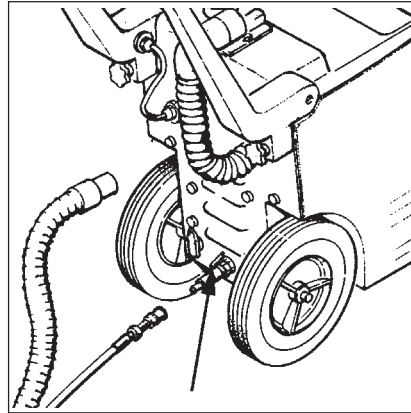
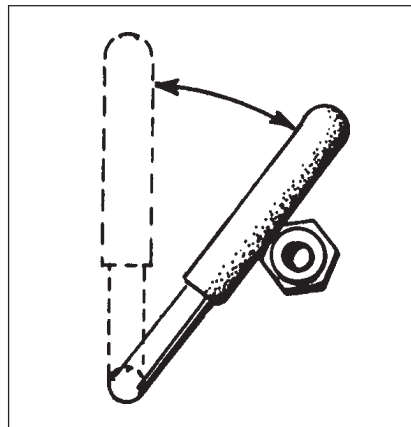

Figure 5
Figure 5a
3. Move and hold the brush height lever (figure 5) away from the auxiliary connection. Make connection and release brush height lever (will rest against connection). See figure 5a.